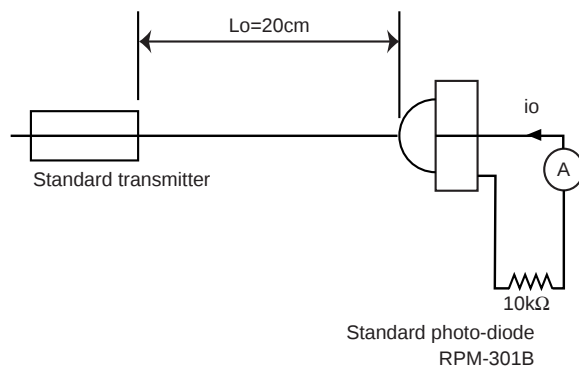
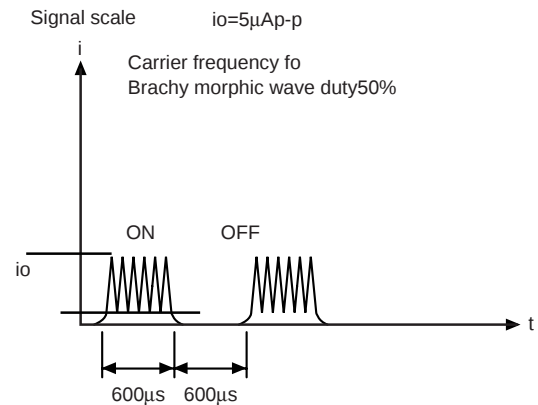

Fig.2 Measurement of standard transmitter proofreading
Fig.3 Standard photo diode current
When standard transmitter output the signal at Fig.1 standard photodiode output become $i_o=5\mu\text{Ap-p}$ (Fig.3) under the measurement condition Fig.2.
- (1) All characteristics of the receiver in this specification are specified by supplying burst wave form (Fig.1) with ROHM standard transmitter (Fig.2).